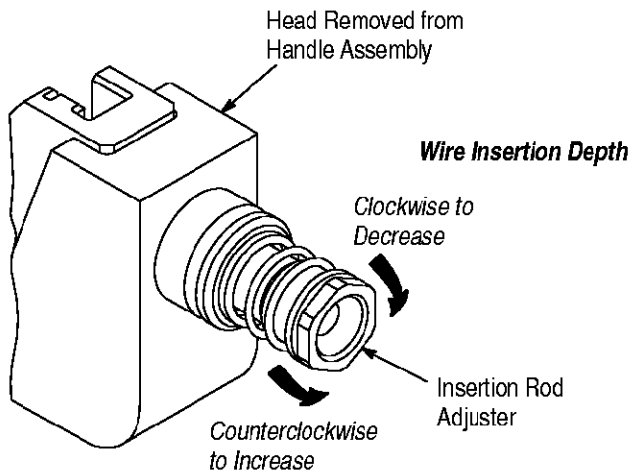

Figure 6
2. If the wires are too deep in the contact slots, turn the insertion rod adjuster *clockwise*. A  $\frac{1}{6}$ -revolution will decrease the wire insertion depth by approximately 0.20 mm [.008 in.]. If the wires are not deep enough in the contact slots, turn the adjuster *counterclockwise*. A  $\frac{1}{6}$ -revolution will increase the wire insertion depth by approximately 0.20 mm [.008 in.]. See Figure 6.